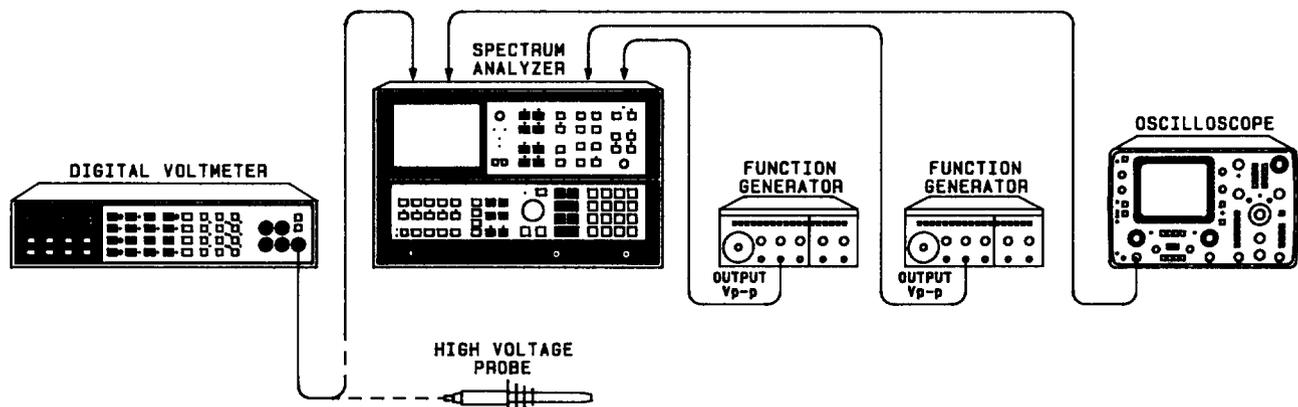

FIGURE 4. HIGH VOLTAGE ADJUSTMENT SETUP
1. Position instrument upright as shown in Figure 4, with top cover removed.
2. Connect DVM to A1A7TP3 (+ 100V) without the high-voltage probe. (Refer to Figure 4.) Place the DVM on the 100V range.
28. Connect a function generator to both inputs of the Display Adjustment Board, as shown in Figure 4. Set the function generators as follows: